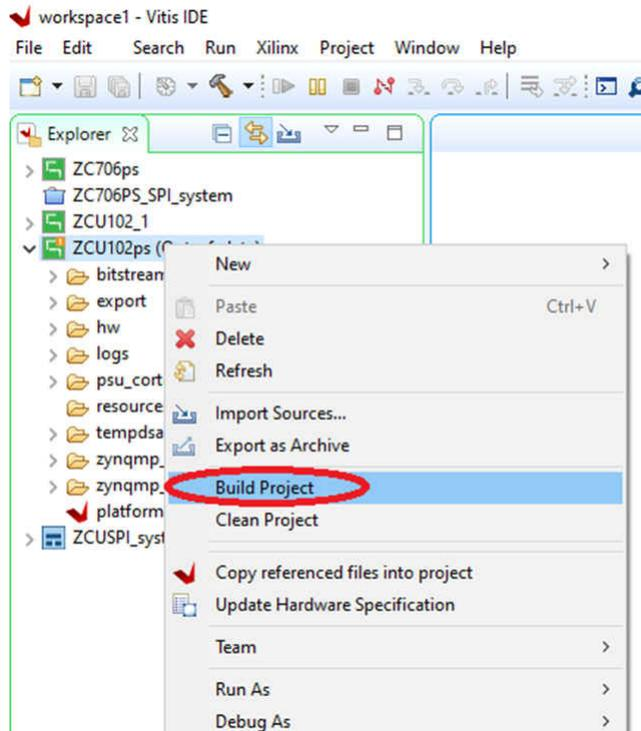

Figure 8-5. Building the New Project
- Right-click the new platform project to open the drop-down menu. Click *Build Project* to start the build (see Figure 8-5). This can take some time to complete the build.